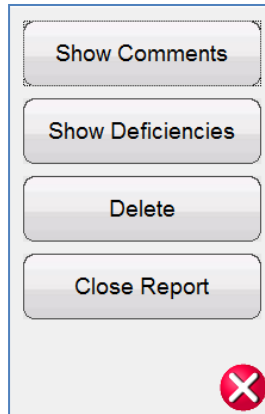

Figure 28 - Report Options Screen
When using the STVI, use the **Control Knob** to scroll up and down to view all results. Note that there is a space in the upper right corner for a company logo to provide a finished and professional look (see Tools menu, Options dialog on the pc). Also note the Options  button just above the recorded results section. Pressing this button will present the user with a number of possible choices for the recorded results (Figure 28).
- 5) Press the Blue Play button, and the Pulse Test Parameters screen will be displayed (Figure 28).